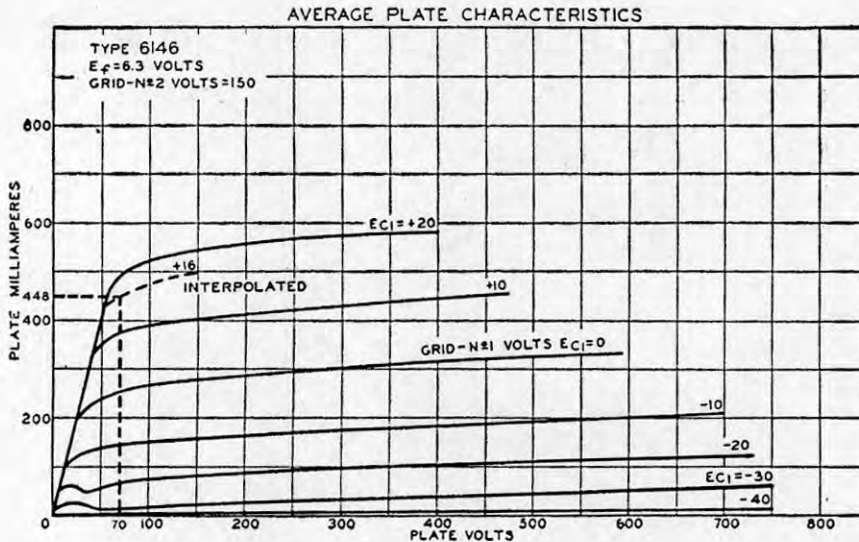

Fig. 44
(3) From the plate family for the 6146 given in Fig. 44 ($E_{c2}=150$ volts), a suitable value for effective minimum plate voltage (e_{bmin}) to the right of the "knee" is 70 volts. The corresponding peak positive grid-No.1 voltage (e_{c1max} , determined from E_{c1} curves) for a peak plate current of 448 milliamperes is approximately +16 volts.
(4) From Table I, K_2 for a conduction angle of 140 degrees is 0.862. Therefore, power output (P_o) = 0.862 \times (600-70) \times 0.112 = 51 watts.
(5) Plate dissipation (P_p) = (600 \times 0.112) - 51 = 16.2 watts. This value is well within the maximum plate-dissipation rating of the 6146 for class C telegraphy under CCS conditions (20 watts).
(6) The dc grid-No.1 or bias voltage (E_{c1}) and peak rf grid-No.1 voltage (E_{g1}) are calculated next. (Note that bias voltage E_{c1} is not the E_{c1} shown in the characteristics curves, which represents total grid voltage, i.e., the algebraic sum of the bias E_{c1} and peak rf grid-No.1 voltage e_{c1max}). From table I, K_3 and K_4 for a conduction angle of 140 degrees are, respectively, 0.520 and 1.520. From the technical data for the 6146, mu-factor (μ_{g2g1}) is 4.5. Therefore,